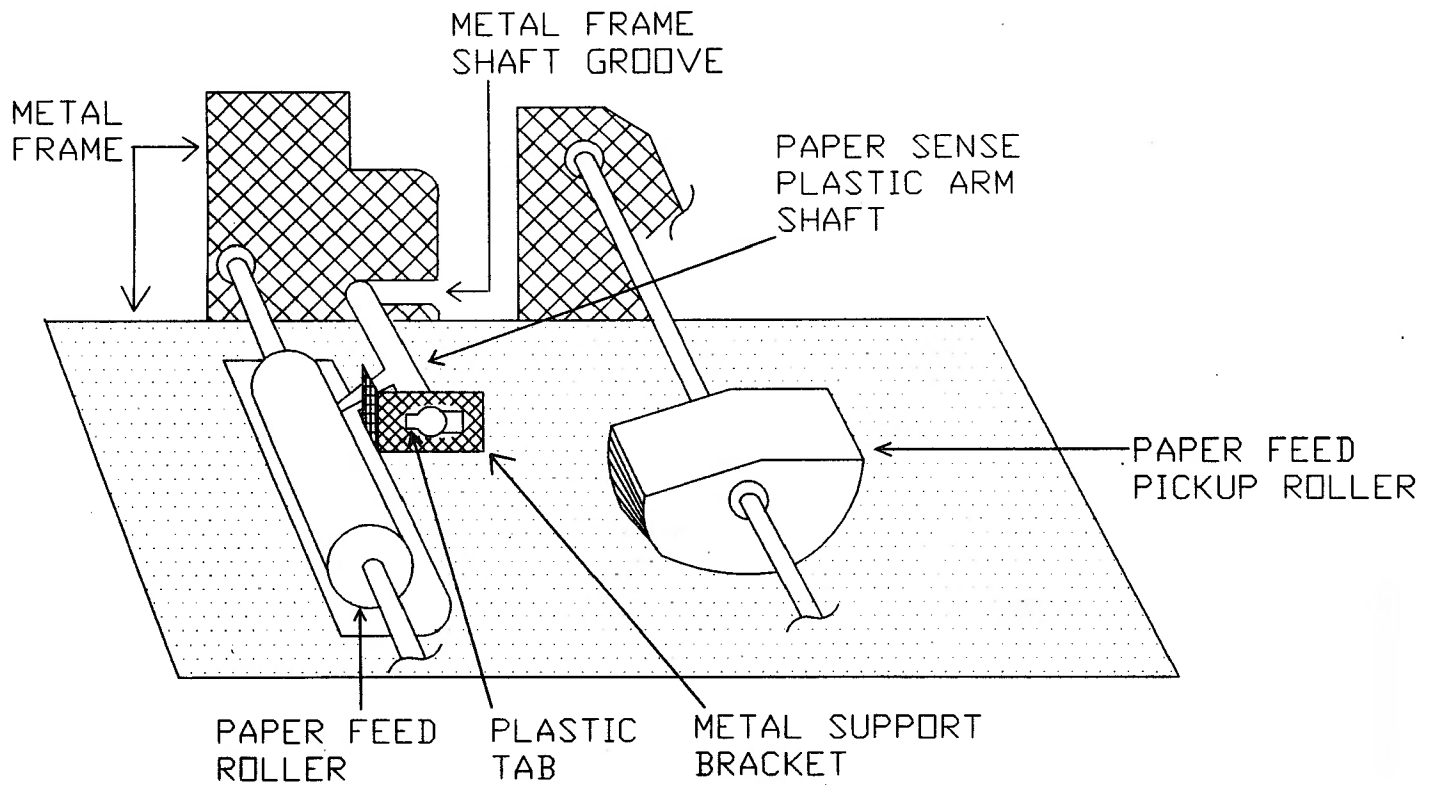

Figure 4
6. Refer to figure 4. Turn the paper feed unit upside down and orient it so that the Solenoid PCB (not shown in this figure) attached to the paper feed unit is away from you. Figure 4 shows the location of the plastic arm shaft and its supporting metal frame brackets, one of two paper feed rollers, and one of three paper feed pickup rollers. NOTE: Not all of the paper feed unit is shown in figure 4. This is only a partial diagram.
7. To hold the plastic shaft arm in place, there is a small plastic tab on the end of the plastic shaft arm that sticks through the metal support bracket (the metal support bracket is shown in figure 4 as crosshatched). This small plastic tab may rub against the bent metal support bracket. Visually inspect the tab to see if it is rubbing against the bracket. If it appears to rub, **VERY GENTLY** bend the metal support bracket towards the upright metal frame piece (also shown as crosshatched) that the other end of the plastic shaft arm inserts into (**keeping it perpendicular to bottom metal frame** - in figure 4 the bottom metal frame is shown dotted).
8. If the tab does not appear to rub, insert a straight blade screwdriver into the metal frame shaft groove (also shown in figure 4) and pry up **GENTLY**. This should allow the plastic arm shaft a little more room to rotate within the groove. It may be necessary to repeat this prying procedure several times until proper freedom of movement is achieved.